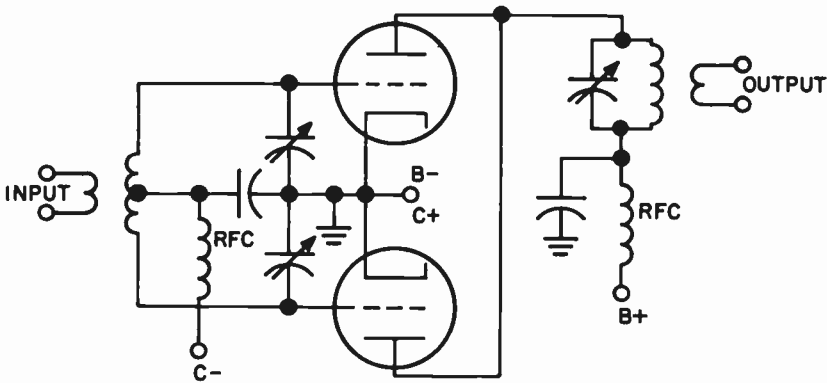

FIG. 13-14. A PUSH-PUSH FREQUENCY MULTIPLIER.
**A PUSH-PUSH AMPLIFIER.** Fig. 13-14 illustrates a push-push amplifier. The grids are connected in the normal push-pull fashion, while the plates are connected to each other in a parallel manner.